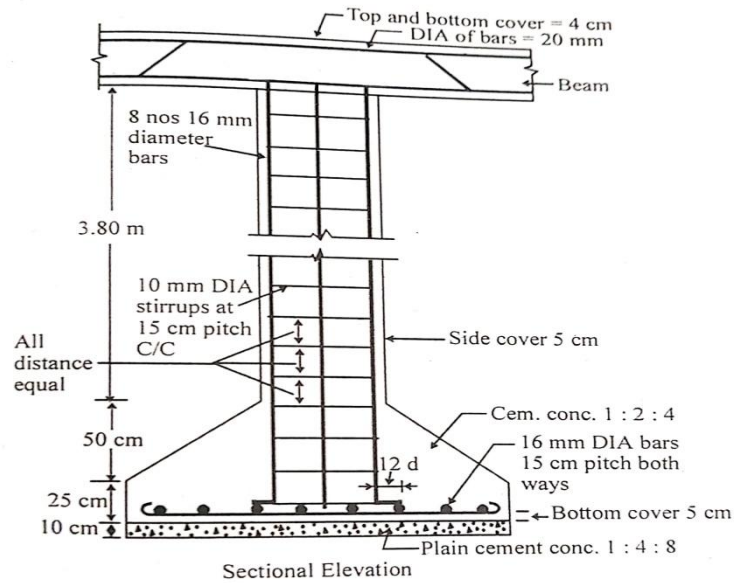

Figure-2
- 5 a) Prepare a bar bending schedule for the column shown in the figure-2 and find out the total quantity of steel reinforcement required. Column Size 40cmx40cm, Base footing 2.1m x2.1m. (20)